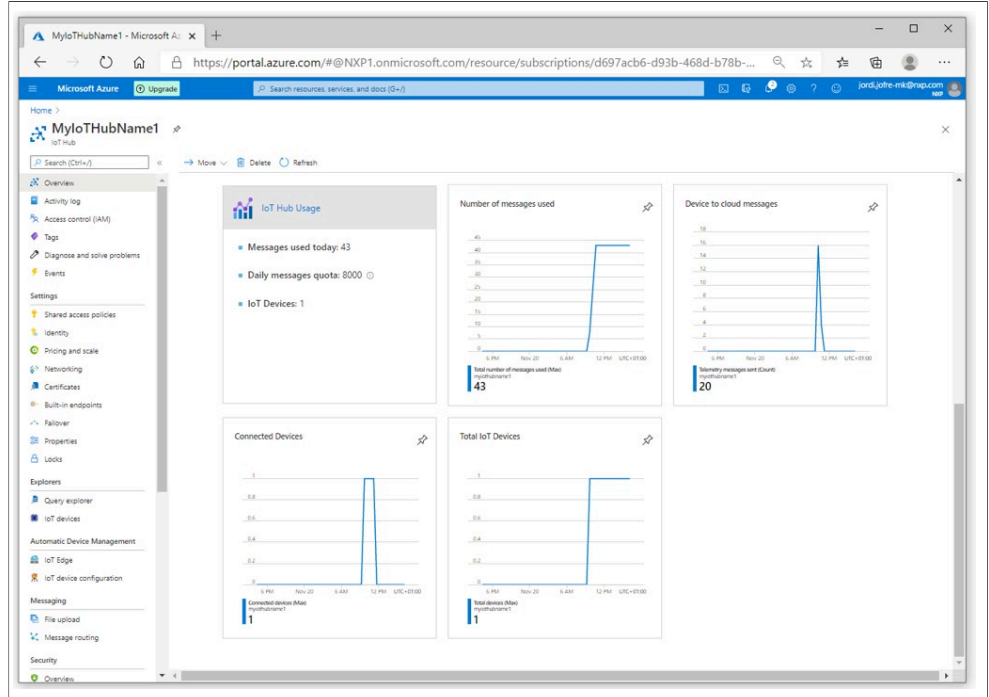

Figure 65. Device connection to Azure IoT Hub - dashboard
- b. In addition, you can also check that some activity is traced in your Azure IoT Hub account dashboard, as shown in Figure 65